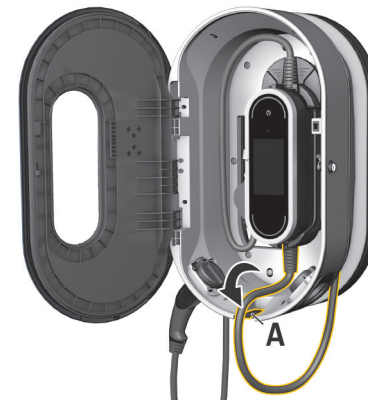

Fig. 41 Attaching the control unit
3. Guide the vehicle cable through the opening A (Fig. 41) and wrap any excess cable around the charging dock.